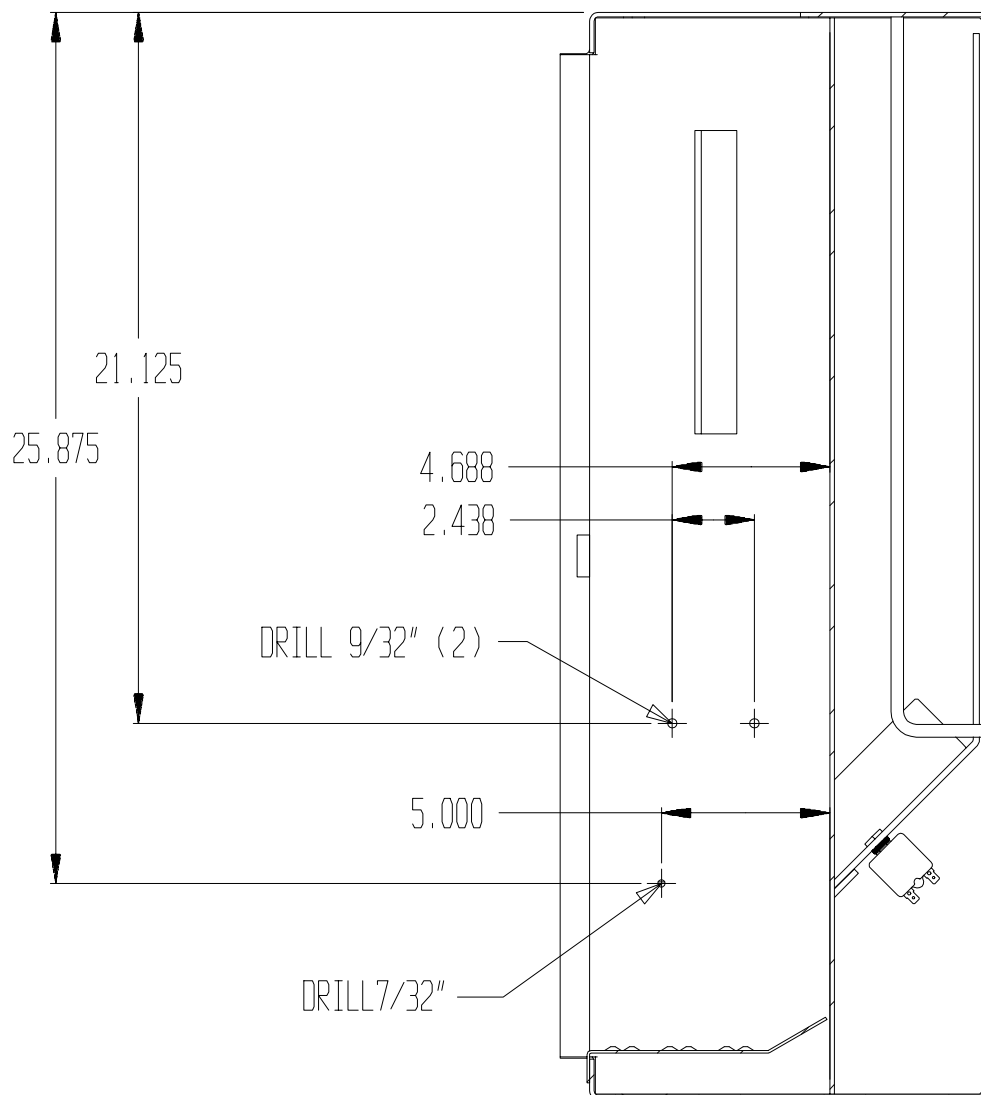

Figure 1-1
Step 3. Locate and drill two 9/32" Dia. holes for the fuse box and one 7/32" Dia. hole for the wire clip. Deburr the holes and clean away any metal cuttings that have landed in or on the Electric Cabinet **(Refer to Figure 1-1).**